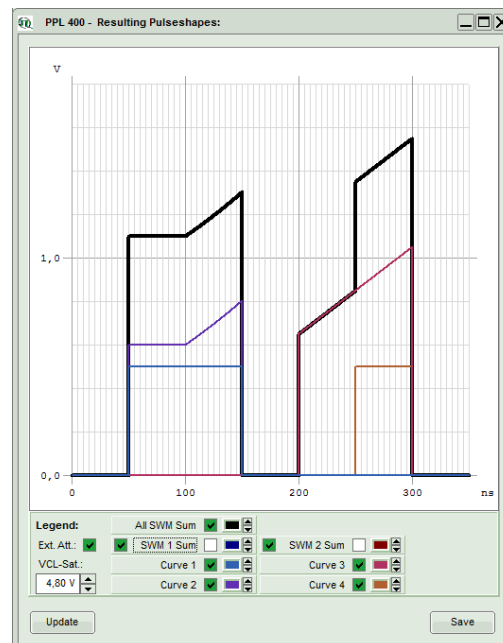

Fig. 39: Pulse shape to be used in the examples.
The visualization of the desired pulse shape and settings for the two SWM 828 modules is shown in fig. 39 and 40. The first pulse shape consists of a flat top + sawtooth structure (A), which is generated from the combination of curves 1 and 2.
The pulse shape generated by the first SWM 828 module is obtained by adding the pulse elements from curves 1 and 2 (displayed as a thick black line in fig. 39). Since the top hat pulse elements of both curves start at 50 ns, the overall amplitude will be $0.5 \text{ V} + 0.6 \text{ V} = 1.1 \text{ V}$. The sawtooth element starts at 100 ns and ramps the amplitude from 1.1 V to 1.5 V over a time period of 50 ns.